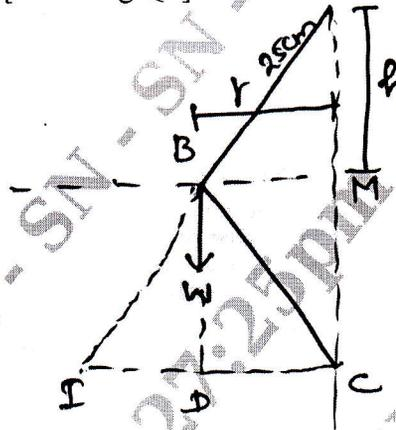

Fig Q9
- 9 A loaded governor of the porter-types has equal links 25cm long pivoted at the axis. The weight of each ball is 29.4N and the weight of the central load is 137.34N. The ball radius is 15cm when the governor begins to lift and 20cm at the maximum speed and the range of speed. If the friction at the sleeve is equivalent to 14.7N. Find the maximum and minimum speed and the range of speed. [Refer Fig.Q9] (16 Marks)